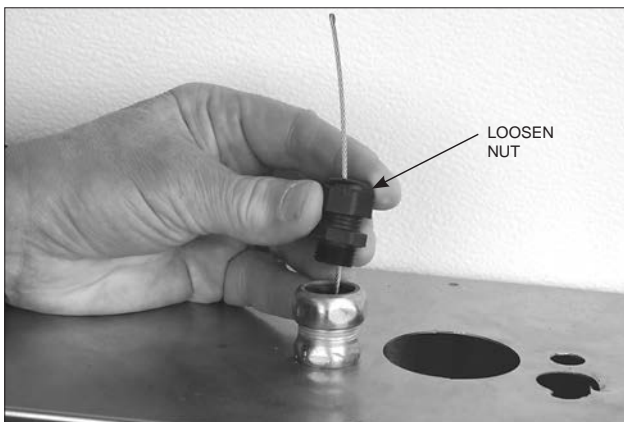

FIGURE 5-57
- 6. Loosen the nut on the strain relief and thread the wire rope through a strain relief. See Figure 5-57.